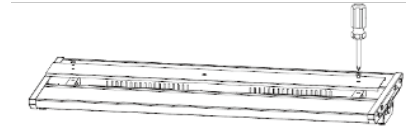

Figure 9
**Step 1:** Open the access cover with screwdriver (Figure 9)